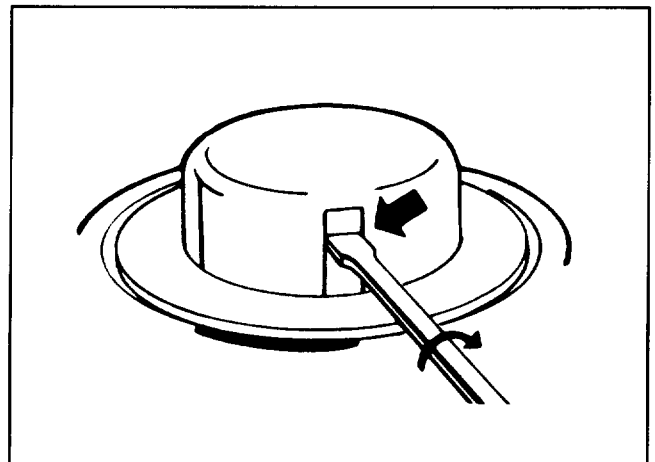

Figure 21
## CLEANING CUTTER HEAD (Fig. 21 & 22)
2. Insert medium blade screwdriver in one of two windows slots on spool hub and twist screwdriver 1/4 turn (Fig. 21). Spool will snap off.